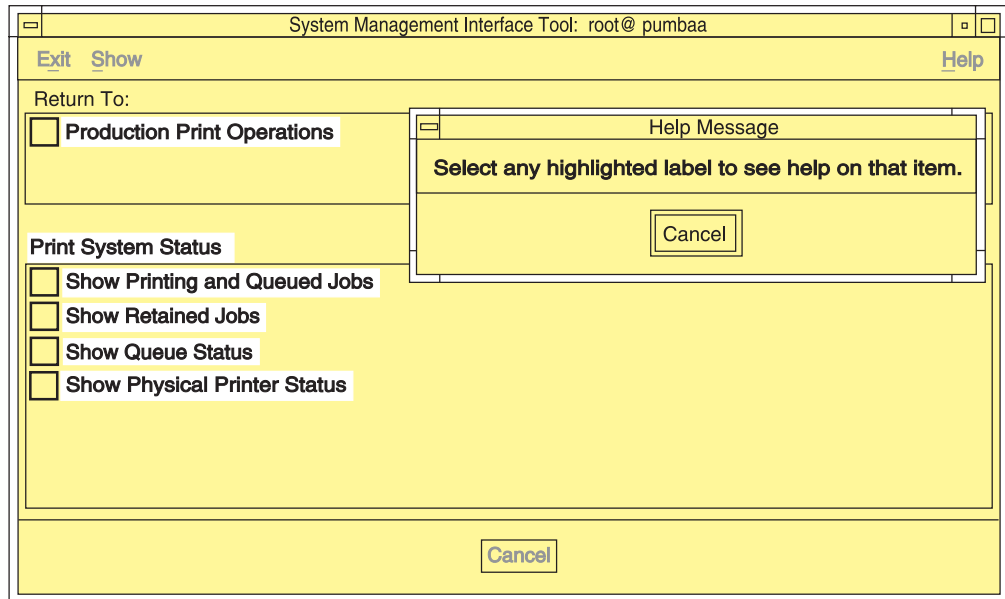

Figure 52. Help for SMIT Panel Menu Selections
1. Press **Ctrl + F1**. All the menu selections on the panel are highlighted. The mouse pointer changes to a question mark. A **Help Message** window opens with instructions on how to access help. Figure 52 on page 213 shows an example of the results of pressing **Ctrl + F1** for a SMIT panel.